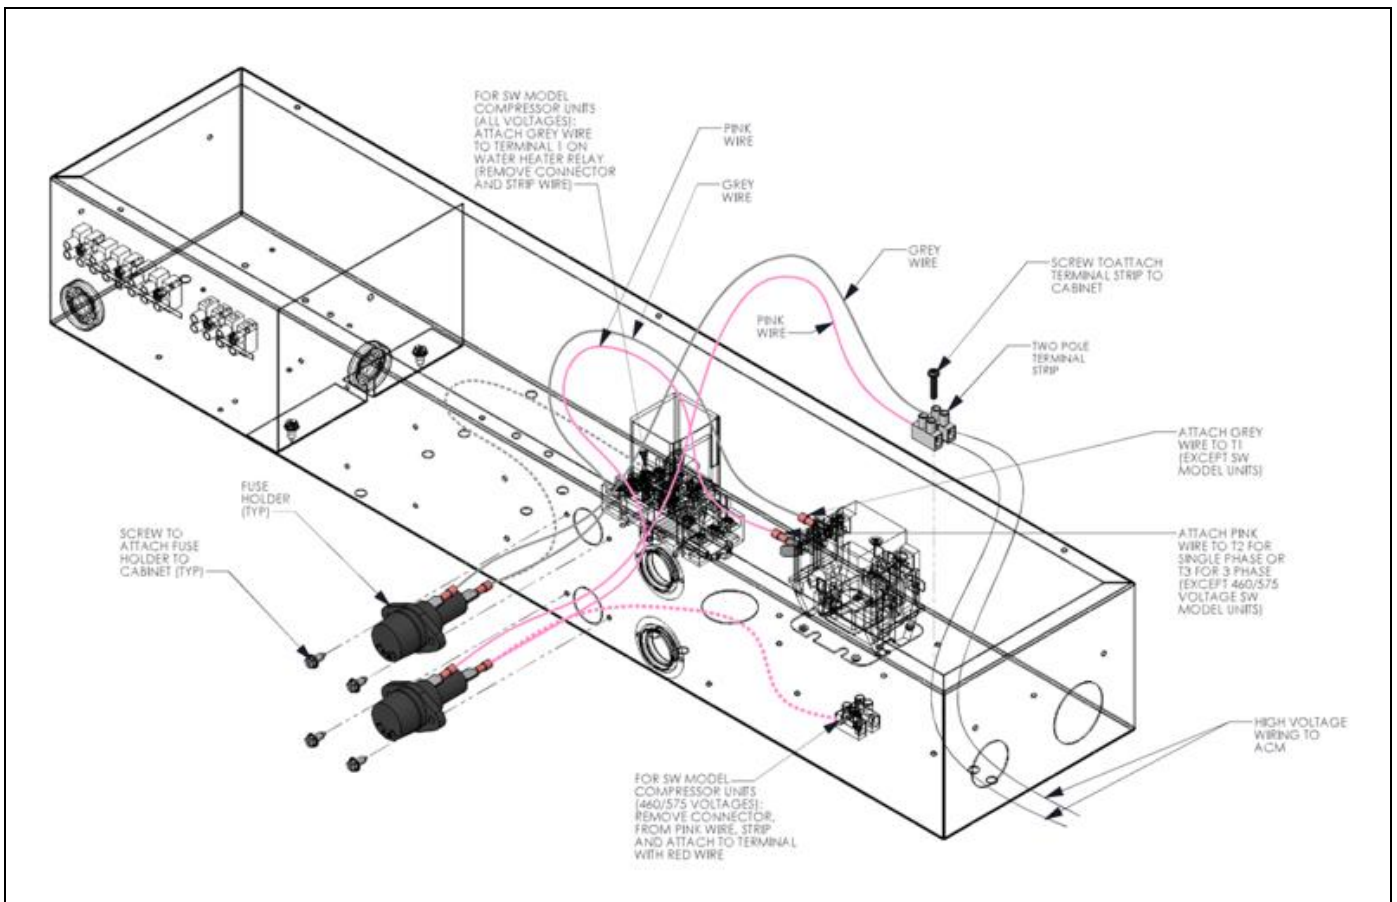

Figure 7. Compressor Unit Electrical Box
2. Reference Figure 7 for compressor unit electrical box. Remove available hole covers from the front of the electrical box.